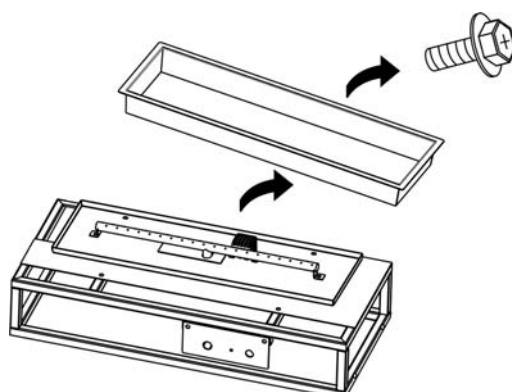

Figure 7
7. There are two factory assembled M4 screws in the firepan/burner assembly. Remove those three screws in order to remove the burner pan protective ring as shown in Figure 7.